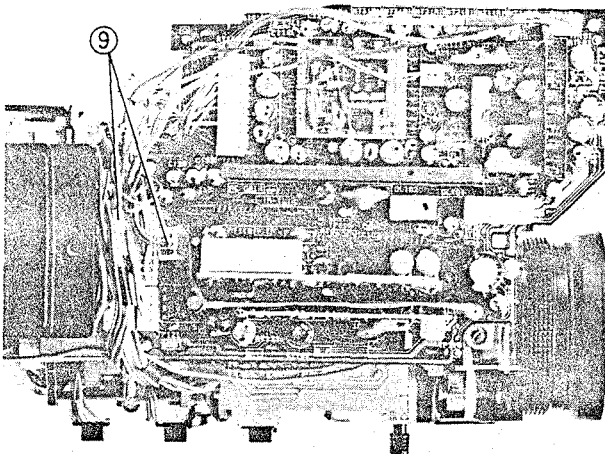

Fig. 2-26 Deflection Circuit Board Removal
9. Disconnect two (2) connectors (CN1315, CN1316). (See Fig. 2-26)